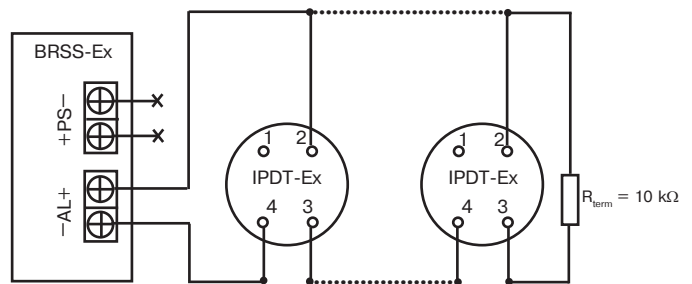

Figure 1 – Recommended connection pattern of IPDT-Ex to BRSS-Ex (the number of IPDT-Ex connected to a single BRSS-Ex loop should not exceed 10)
- 4.2.3 Connect input wires to the IPDT-Ex base terminals in accordance with the diagram (Figure 1). Maximum electrical conductor cross-section area is 0.75 mm2.